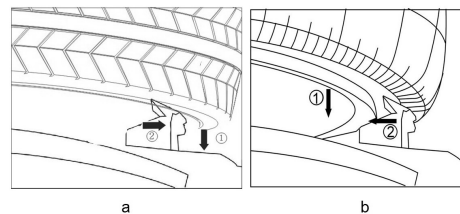

Fig. 16
①Option 1: Internal rim clamping(Fig. 16-a) , press the pedal B to make the wedges close up, place the rim on the working plate and clamp it.
②Option 1: External rim clamping (Fig. 16-b) , make the wedges apart with the pedal B, place the wheel and locked it.